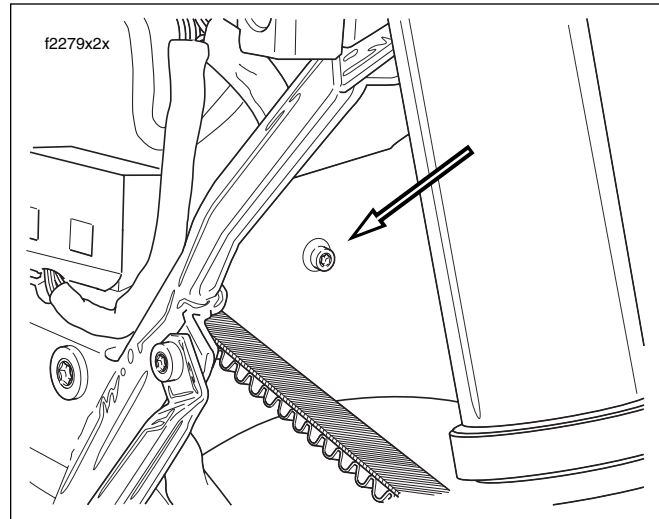

Figure 2-191. Rear Fender Front Screw (T40 TORX)
8. Obtain ratchet and T40 TORX head bit. Standing on left side of motorcycle, remove screw to release front of rear fender from battery box. See Figure 2-191.
4. Standing on left side of motorcycle, start screw securing front of rear fender to battery box. See Figure 2-191.